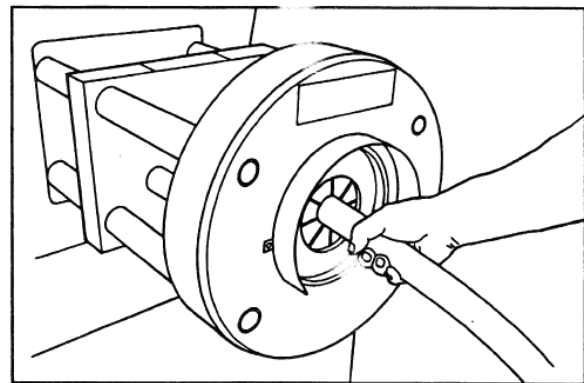

Figure 5
3. Position the fitting in the crimp die set according to the corresponding figure shown in Figure 5.
4. To crimp the fitting, press the CRIMP switch or footswitch. The die cage will advance until the fitting is fully crimped (Figures 5 & 6). It will then automatically begin to retract, signifying that the crimp is complete. Release the crimp switch or footswitch. The cylinder will automatically retract and stop at the "full retract" position (or at the programmable retract position, if it has been set).